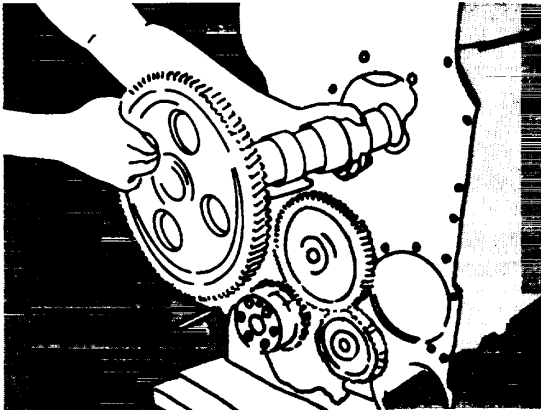

Figure 16N-21. Install the Camshaft
3. Install the camshaft in the block. Use the pilot as guide to rotate and lift the camshaft slightly, Figure 16N-21. Take care not to distort the camshaft lobes or journals.
4. Align the "X" marks on the camshaft and idler gear to make sure the timing is correct. See Figure 16N-19.
5. Secure the camshaft thrust plate to the block. Tighten the capscrews to 30 to 35 ft-lbs (41 to 47 N.m) torque, Figure 16N-22. Bend lockplates.